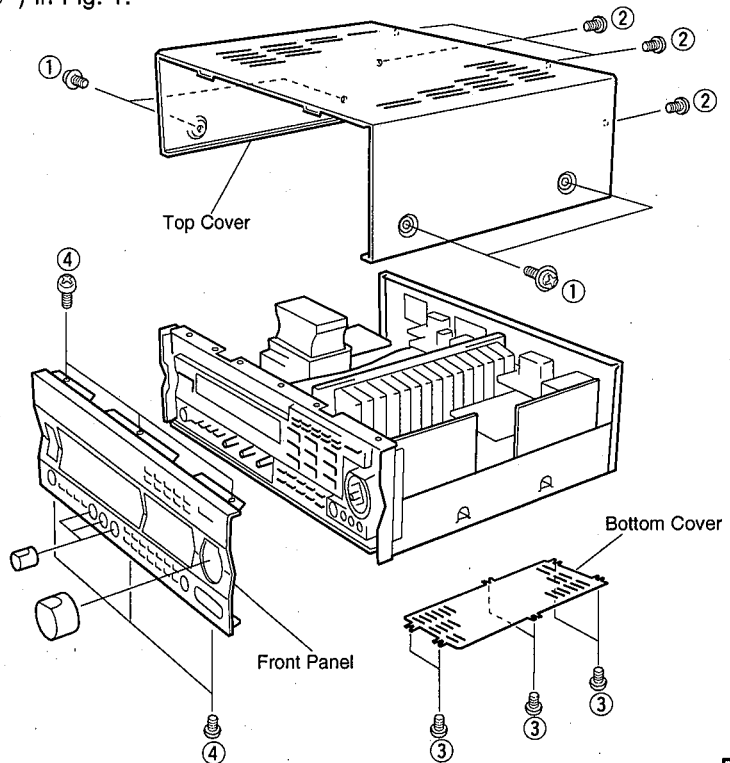

Fig. 1
- a. Remove 4 screws (1) and 4 screws (2) in Fig. 1.
- a. Remove 6 screws (3) in Fig. 1.
- b. Remove 6 screws (4) in Fig. 1.